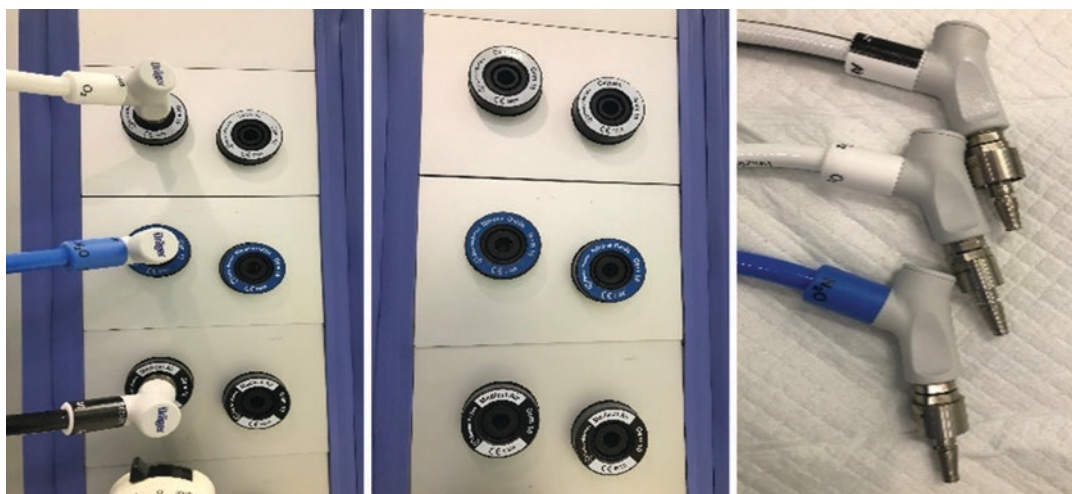

Fig. 10.8 (a) Medical gas outlets, (b) wall outlet sockets (c) Medical gas pipelines
10.9.3.9 Safety of Medical Gas Pipeline Network (Fig. 10.8)